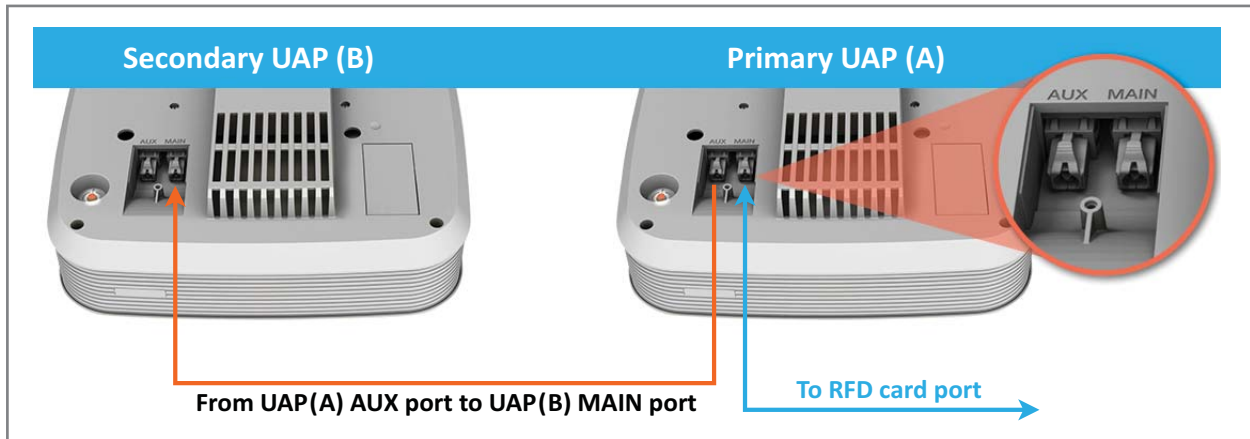

Figure 6-3. UAP Cascade Options
Two UAPs can be operated in cascade mode to provide LTE MIMO coverage or to support additional bands, as shown in Figure 6-3. To cascade UAPs, connect a CAT6A cable from the AUX port of the primary UAP (A) to the MAIN port of the secondary UAP (B). The AUX port of the secondary (B) UAP is not used in cascade mode.